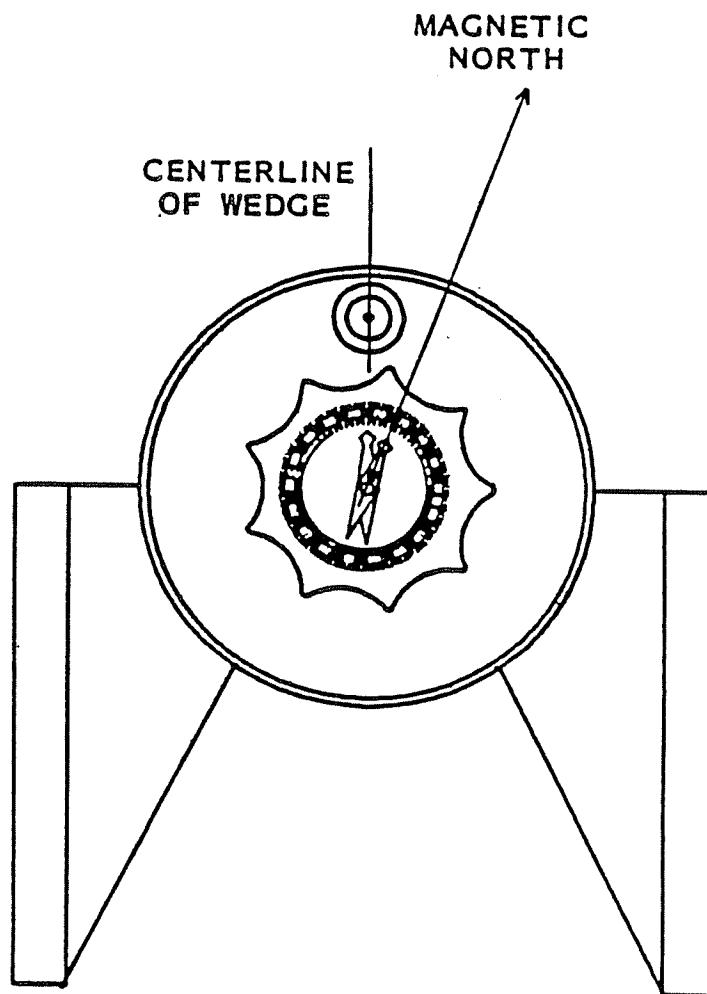

Fig. 5: Equatorial Wedge and Magnetic Compass
1. Loosen the knob/compass slightly. This allows for rotation of the Equatorial Wedge under the knob/compass (Fig. 5). The magnetic pointing arrow will point to magnetic north.